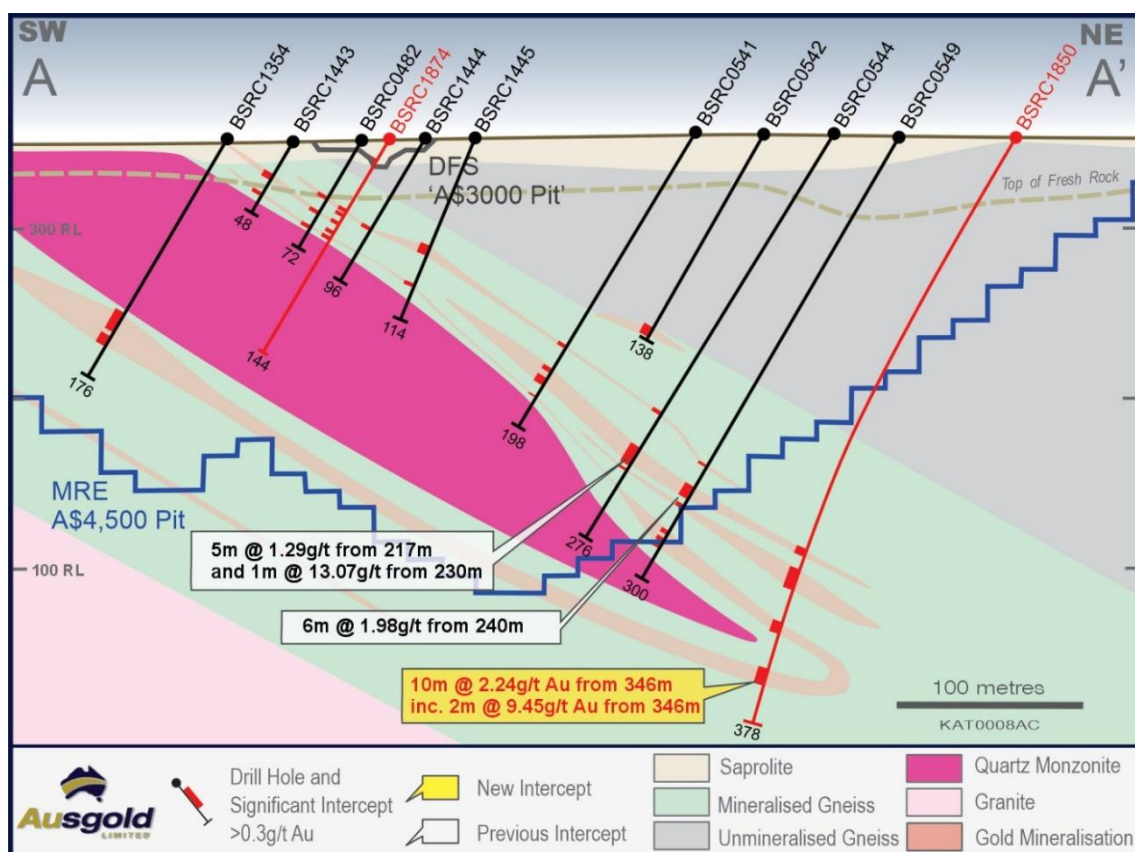

Figure 3 – Cross-section A-A' across the Jinkas -White Dam Lodes with Resource Drilling and Pits
- **10m @ 2.24g/t Au from 346m including 2m @ 9.45g/t Au from 346m in BSRC1850 (Jinkas-White Dam) – Figure 3.**